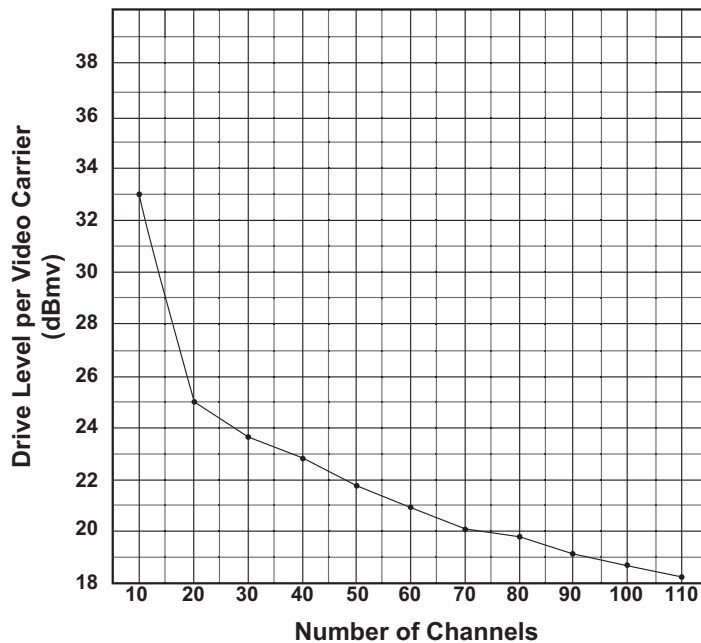

Figure 3.1 – Transmitter Level per Channel vs. Number of Channels
| Input Signal Range (per ch.) | See Figure 3.1 | | | | 5 |
5. The recommended RF input level is shown in Figure 3.1. Exceeding the RF input level may damage the transmitter. Actual units do vary several dB's from these curves. The carrier levels should be closely matched to ensure consistent performance on all channels. In all cases, set the composite RF input level so that the RF Level Indicator LED is green. Note that the RF indicator LED only operates for rated channel loading and a flat input spectrum.
- A. **RF Level Adjust** - Provides 4 dB of variable attenuation of the RF input level. Allows precise input level adjustment to the nominal level requirements noted in Fig. 3.1 to provide a green indication on the tri-color RF LED.
Figure 3.1 on page 10 shows the transmitter level per channel versus the number of channels being transmitted.